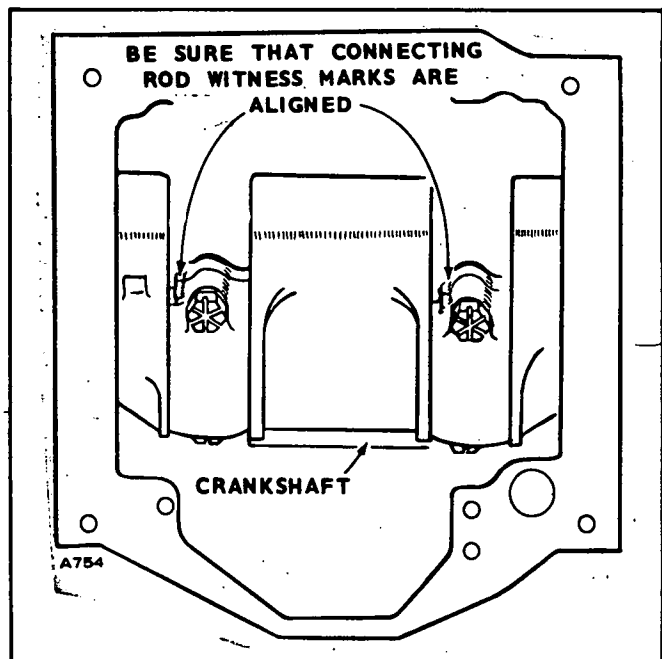

FIGURE 52. CONNECTING ROD CAP
5. Position each connecting rod on the crankshaft and oil the journal and install its rod cap with bearing half. When installing the rod cap, position so the raised witness mark on the forging matches the mark on the connecting rod. See Figure 52.